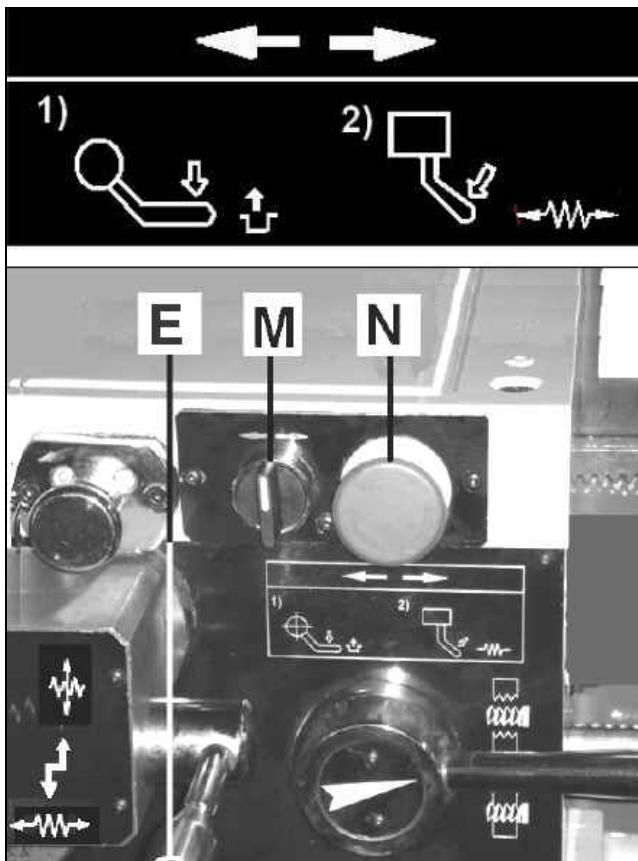

Fig 17
- Engage the longitudinal feed. set lever (E, Fig 17) to the  position (push left and down).
- Rotate the rapid feed switch (M, Fig 17) in the desired direction